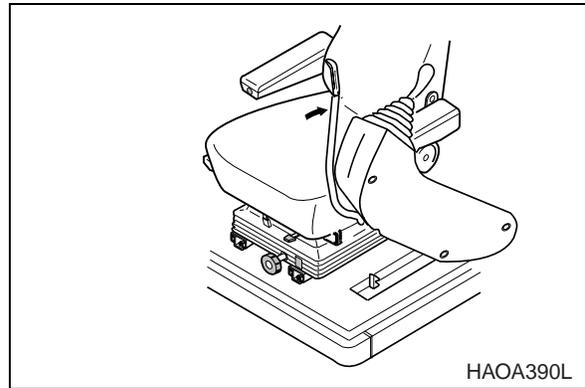

Figure 87
When leaving operator's seat, set the safety lever to "LOCK" (Figure 87) position, if not a serious accident could occur by accidentally moving the work levers.
2. Set safety lever (Figure 87) on "LOCK."